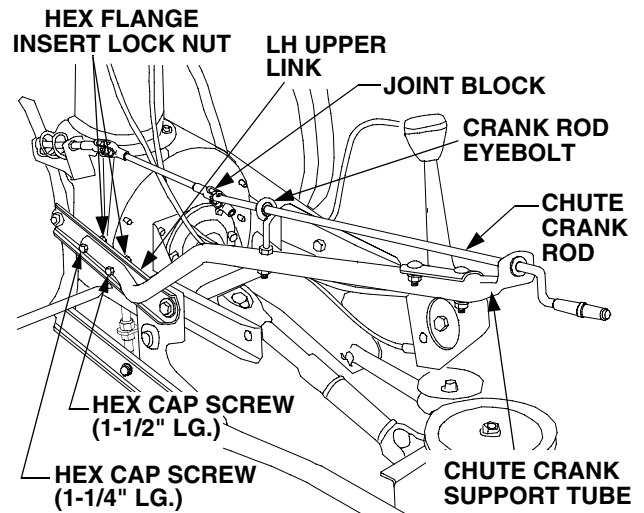

Figure 5
3. Install the chute crank support tube (B, Fig.1) onto the LH upper link of the snow thrower (A, Fig.1) subframe using the hex cap screw (7, Fig.2), hex cap screw (17, Fig.2) and two hex flange lock nuts (13, Fig.2). *Note: the longer hex cap screw (17) must be installed in the rearward hole.* Refer to Figure 5.
4. After making sure the chute crank rod is routed through the eyebolt, insert the rod into the sleeve of the joint block on the chute crank assembly. Align the holes and secure the rod with the cotter pin (4, Fig.2). See Figures 5 and 6.